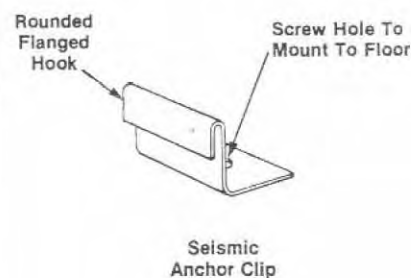
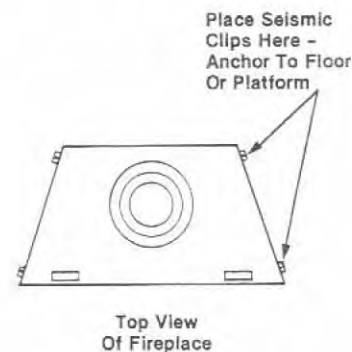

Figure 8
Figure 9
**Step 4:** Fireplace may be anchored to floor (in manufactured housing, fireplace MUST BE anchored to the floor). Figure 8 illustrates the seismic anchor clip provided with the fireplace. Figure 9 illustrates the proper installation technique.